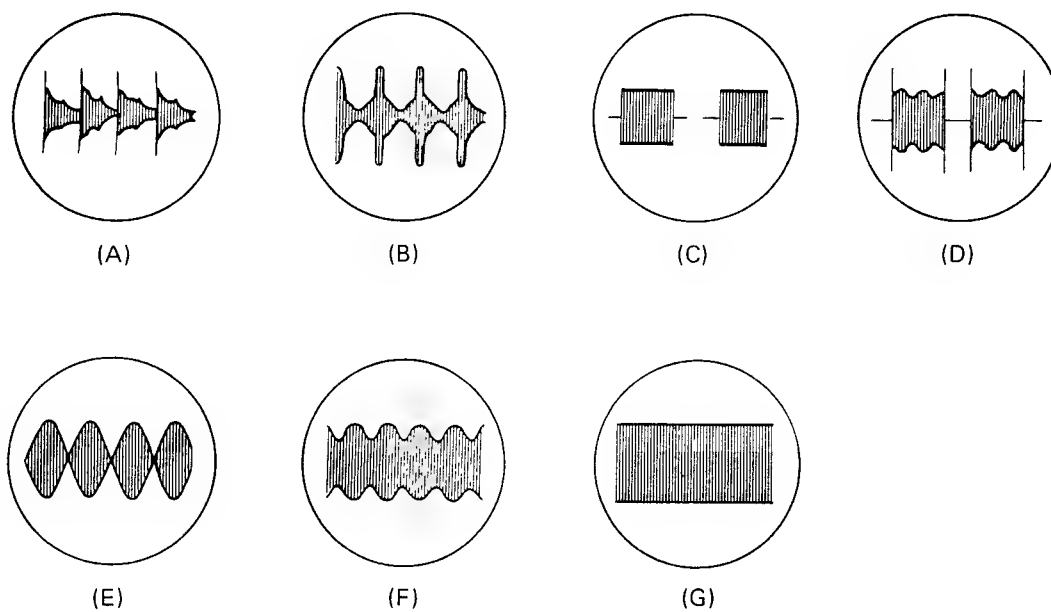

Figure 3.
- (1) Place the MODE switch in the TX MONITOR position.
- (2) Place the ENVEL/TRAP switch in the ENVEL position.
- (3) Place the INPUT level control to the position indicated in Table 1 , according to the power level being used.
- (4) For the following SSB signal evaluation tests, the SWEEP FREQ and FINE controls will provide the desired display synchronization.
- (5) For two-tone signal testing, push the 1900 and 1500 buttons. While transmitting, the correct levels for the MIC GAIN, RF PROCESSOR, and other controls can be made by referring to Figure 3 .
- (6) To set the level correctly between the two internally-generated tones, first press the 1900 Hz tone button. While transmitting, adjust the V. GAIN control until the display reaches the second division on the scale. Now turn the 1900 Hz button off, and turn on the 1500 Hz button. Rotate the TONE BALANCE control, located on the rear apron of the transceiver, until the display amplitude is the same as that observed for the 1900 Hz tone previously.